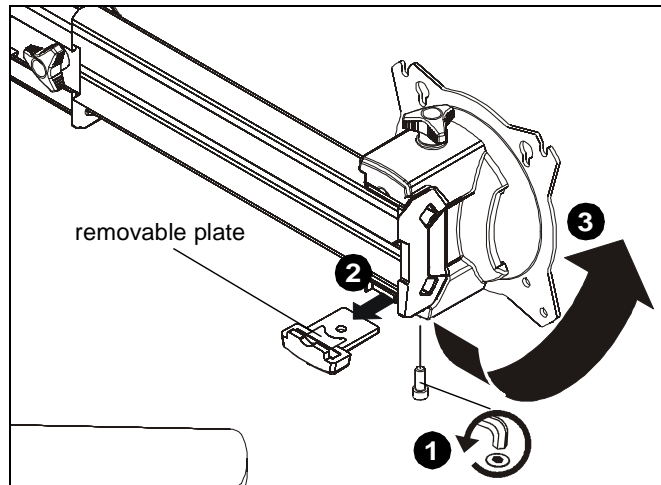

Figure 14
1. Remove hex head bolt from bottom of faceplate assembly. (See Figure 14)
2. Slide out removable plate from bottom of faceplate assembly. (See Figure 14)
3. Remove faceplate assembly from array arm. (See Figure 14)